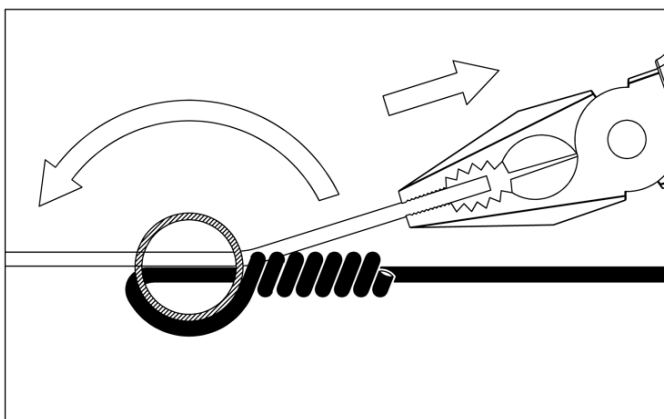

Fig 11. Pull second wire with pliers and rotate 3/4 of a turn.
4. Pull tension in the second wire with a pair of pliers while holding the arm with your hand. (Fig 11).
5. Rotate the second wire around the arm 3/4 of a turn. (Figs 11 and 12).